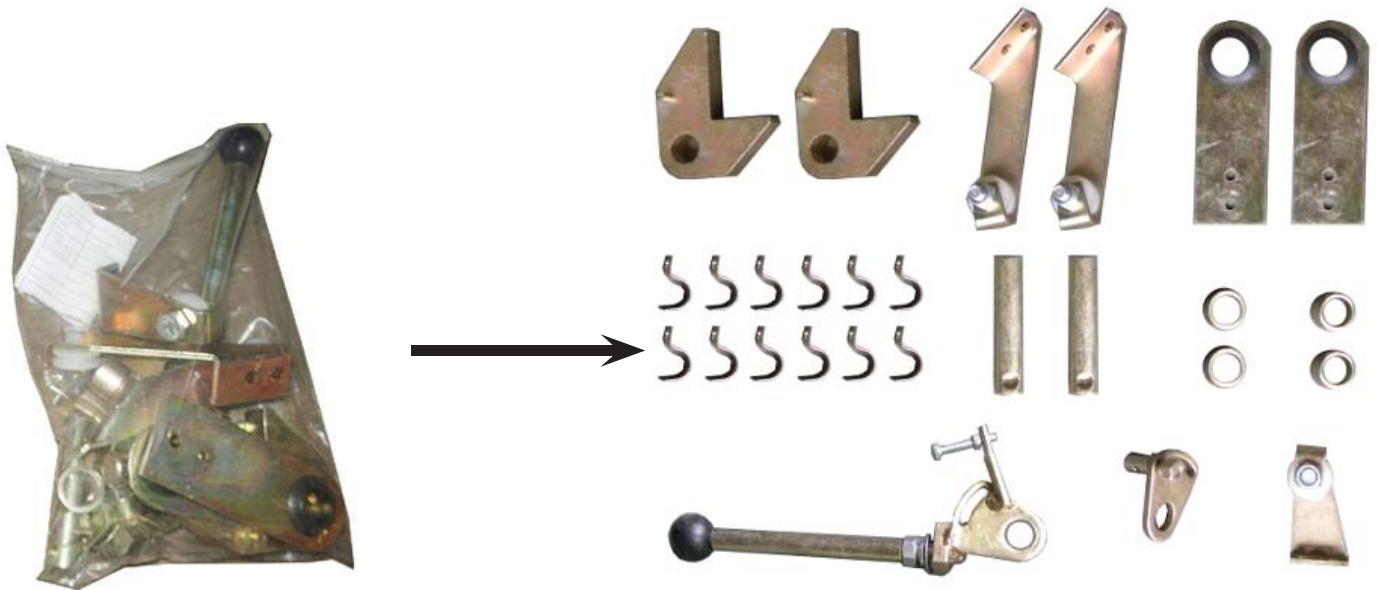

Fig. 14
9. Check the parts in parts bag 2# according to parts bag list (**See Fig. 14**).